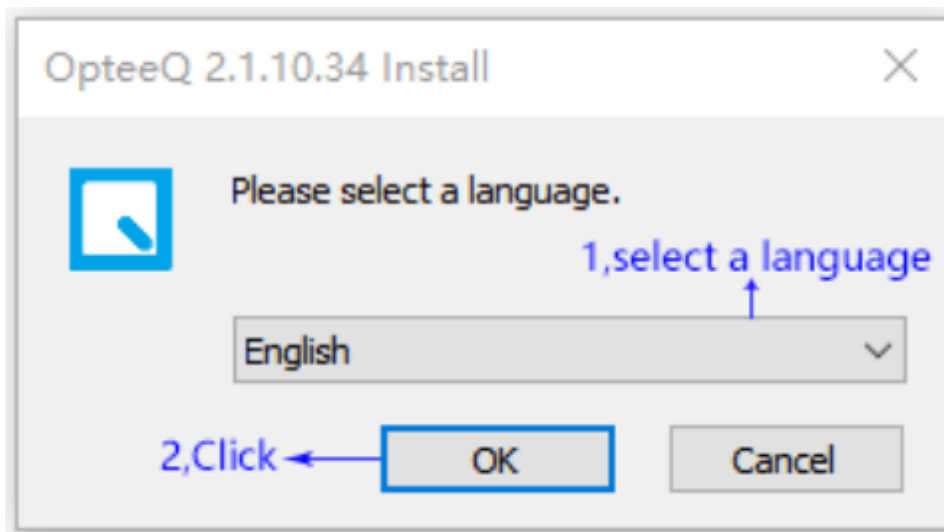

Figure 1.2: Step 2
Step 2: Language selection interface, Chinese by default. Click "OK", as shown in Figure 1.2.